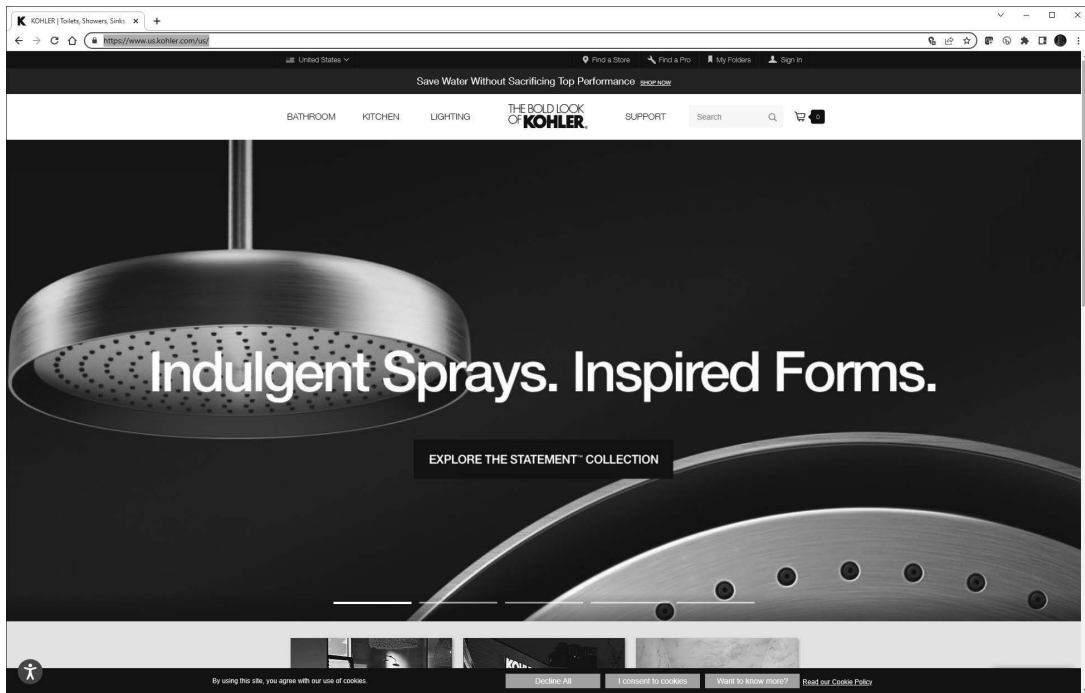

FIGURE 4-1.1 Plumbing manufacturer website
2. Browse to the **Kohler** website (Figure 4-1.1) by entering the URL <https://www.us.kohler.com/us/> and then pressing **Enter**.